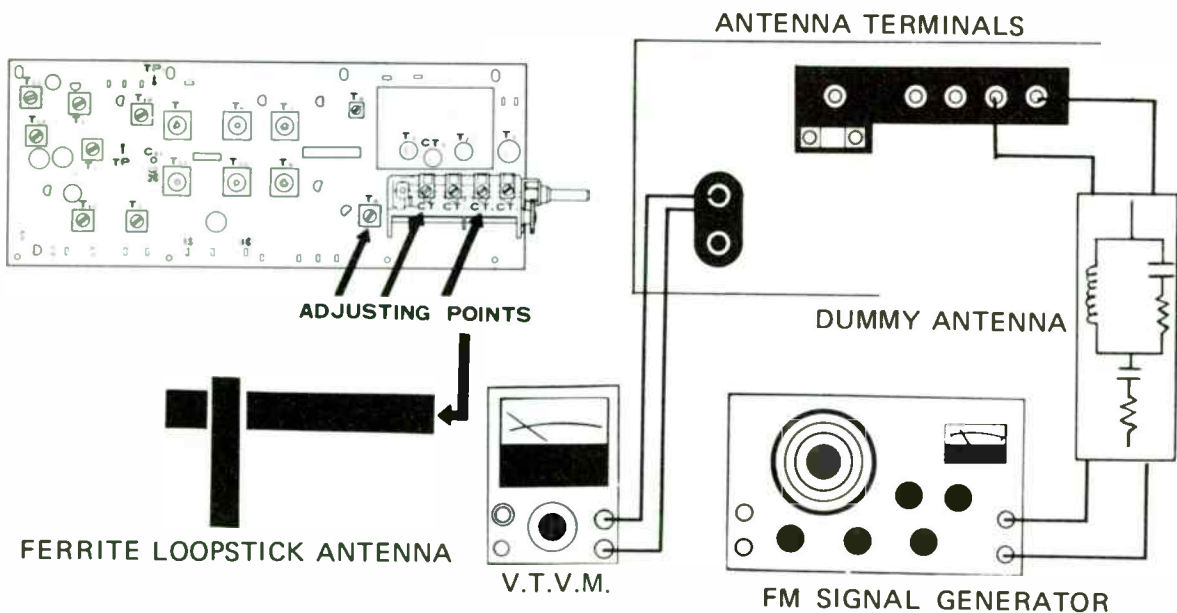

Fig. 6
- (b) Connect the AM signal generator to the AM antenna terminals (Fig. 6).